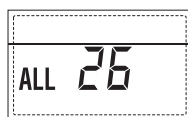

Fig. 24/v
– SOLAR APPLICATION COHERENCE ANOMALY “ALL 27” (fig. 24/w)